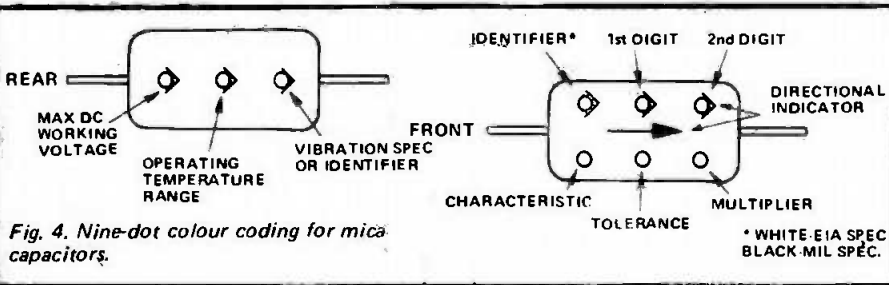

Fig. 4. Nine-dot colour coding for mica capacitors.
*Fig. 4. This one-piece light guide splits the light from a single bulb into six beams to scan six rows of holes in a punched card for an automatic telephone dialling unit.*
rims, pivots and similar mounting, swivelling, adjusting and actuating members, in a wide range of shapes, sizes or configurations, as shown for instance in Fig.4. This means that in a well-designed product, the optical system parts snap or slide into the housing without any further assembly operations and, with precision-moulded housings, no subsequent setting or adjustment should be necessary.
Light guides can be of many different basic types, depending on the function they are required to perform. A good example is the Card Callmaker, a compact unit which can automatically dial a telephone number with up to 16 digits when the appropriate punched card is inserted into it. The light guide (see Fig.4), which is moulded accurate to  $\pm 0.012$  mm in all dimensions, has six 'fingers', which split the light from a single lamp into six beams. Each finger incorporates a lens at its tip, which focuses the light on to a photocell. The inserted card blocks the light, except where holes are punched in any of the six rows available. This automatic dialling unit could, of course, also work with six lamps and conventional glass lenses, but then failure of any one lamp out of six would result in a wrong number. If the single lamp in the Card Callmaker fails, the unit will simply not operate. This moulded unit is much cheaper than a light guide made up from bundles of glass fibres.